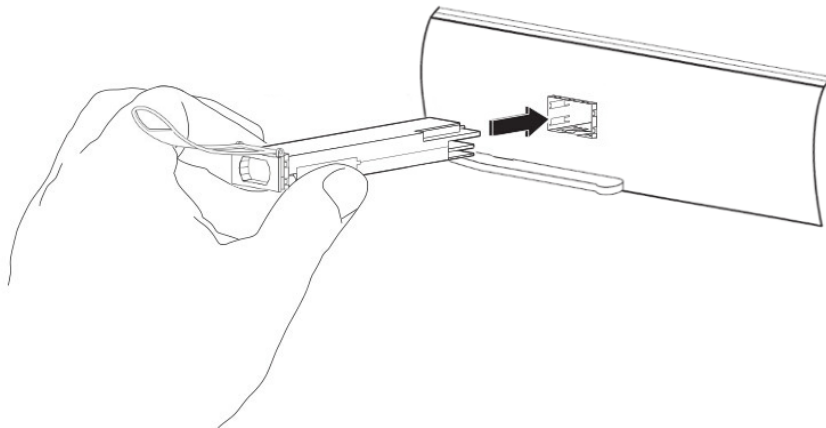

Figure 16: Installing a QSFP+ Module into a port
4. Align the QSFP+ transceiver in front of the module's transceiver socket opening and carefully slide the QSFP+ transceiver into the socket until the transceiver makes contact with the socket electrical connector of the **Komodo Fiber board**, as shown in Figure 16.